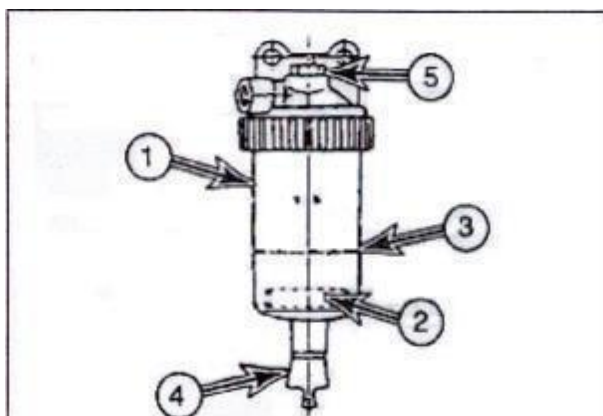

Fig 4-15
1. Open the hood and check the oil-water separator (see Figure 4-15).
If there is water in the container ① (Figure 4-15), the red float will float.
2. Release the water when it floats to the warning line ⑧ (Figure 4-15).
3. Loosen the drain valve ④ at the bottom of the container (Figure 4-15).
5. The plug ⑤ (Figure 4-15) on the top of the oil-water separator cannot be reused. If the plug is loose, replace it and tighten it.